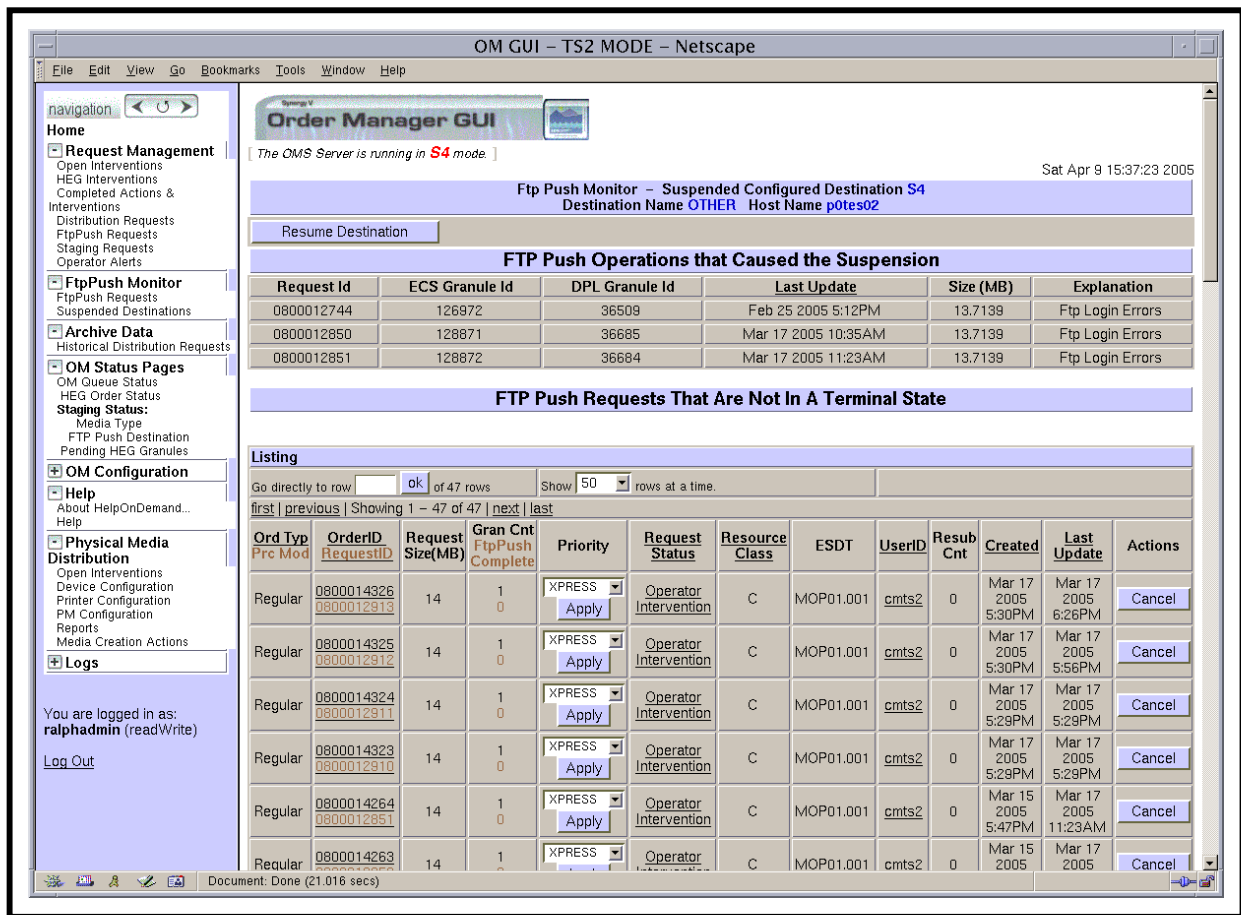

Figure 38. Destination Details Page (Ftp Push Monitor – Suspended Destination Name OTHER)
The **Priority** column in the **Distribution Requests** table of the **Distribution Requests** page (Figure 32), **Staging Distribution Requests** page (Figure 33), the **FtpPush Distribution Requests** page (Figure 34) or the **Destination Details** page (Figure 38) on the **OM GUI** allows the full-capability operator to change the priority of distribution requests that are in a state that allows the priority to be changed. The **Priority** line of the **Distribution Request Details** page (Figure 35 or Figure 36) provides the full-capability operator with an alternative means of changing the priority of the particular distribution request.
- The **Distribution Requests** page (Figure 32), **Staging Distribution Requests** page (Figure 33), the **FtpPush Distribution Requests** page (Figure 34), or the **Destination Details** page (Figure 38) is being displayed on the **OM GUI**.
The **Action** column in the **Distribution Requests** table of the **Distribution Requests** page (Figure 32), **Staging Distribution Requests** page (Figure 33), the **FtpPush Distribution Requests** page (Figure 34), or the **Destination Details** page (Figure 38) on the **OM GUI** provides the full-capability operator with a means of taking the following kinds of actions with respect to distribution requests:
- **Destination Details** page (Figure 38).
- The initial page [i.e., the **Distribution Requests** page (Figure 32), **Staging Distribution Requests** page (Figure 33), the **FtpPush Distribution Requests** page (Figure 34), or the **Destination Details** page (Figure 38)] is displayed.
- The initial page [i.e., the **Distribution Requests** page (Figure 32), **Staging Distribution Requests** page (Figure 33), the **FtpPush Distribution Requests** page (Figure 34), **Distribution Request Details** page (Figure 35 or Figure 36), or the **Destination Details** page (Figure 38)] is displayed.